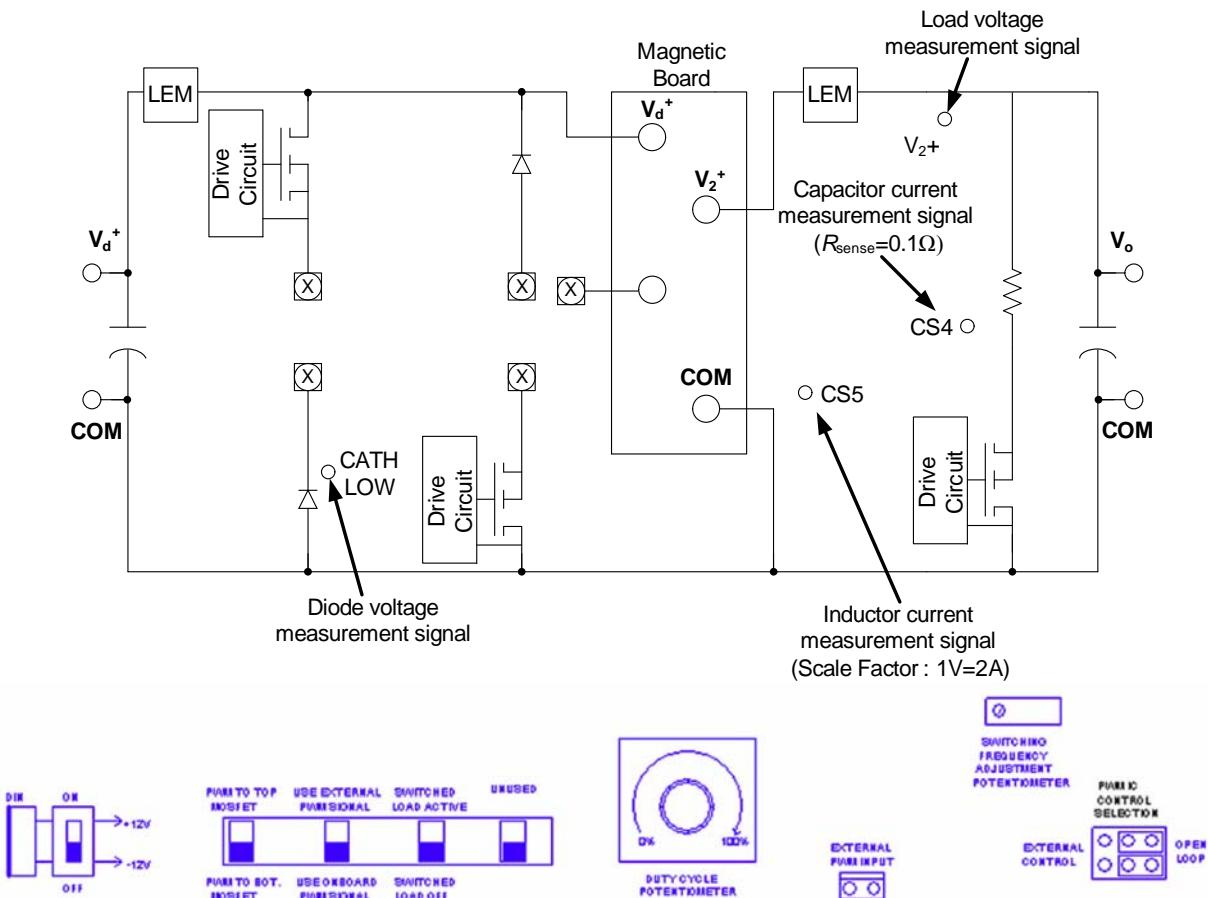

Figure 1. Sketch of the laboratory board with no magnetic board attached.
- (1) Complete the buck converter in Figure 1. Draw the necessary connections between the diode, transistor and the magnetic board. The magnetic board for the present buck lab comprises the filter inductor only. Observe that not all diodes and MOSFET's on the lab board need to be used.
- (2) Derive the expression for the input/output voltage ratio for both CCM and DCM. Use these expressions to complete the tables on page 9 for the specified values of the duty-cycles. Use $R_L = 10\Omega$ and $f_{sw} = 20\text{kHz}$.
- (3) The buck converter can operate in either DCM or CCM. Draw the ideal waveforms of i_L , v_{diode} and v_L for $D = 0.4$, $R_L = 10\Omega$ for two switching frequencies ($f_{sw} = 20\text{kHz}$, $f_{sw} = 60\text{kHz}$). Hint: One switching frequency will result in DCM operation and the other one to CCM operation.
- (4) Calculate the corner frequency of the low-pass filter with the rule given during the lecture. For which switching frequency has this filter been designed?
- (5) If the load is assumed to be purely resistive, derive an expression for the duty cycle D that sets the boundary condition between CCM and DCM as a function of the load resistance(R_L).